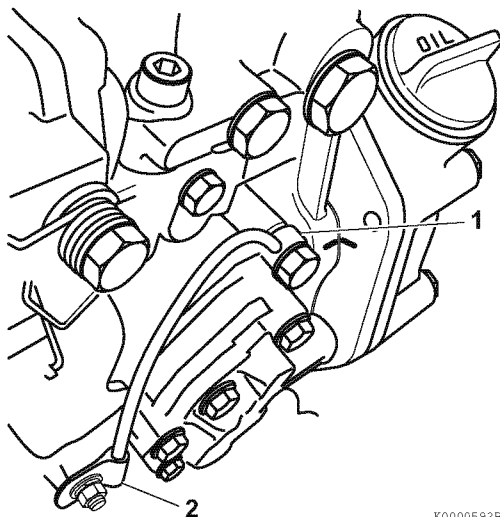

Figure 7-28
7. Reconnect the lube oil line **(Figure 7-28, (1))** and clamp **(Figure 7-28, (2))**.